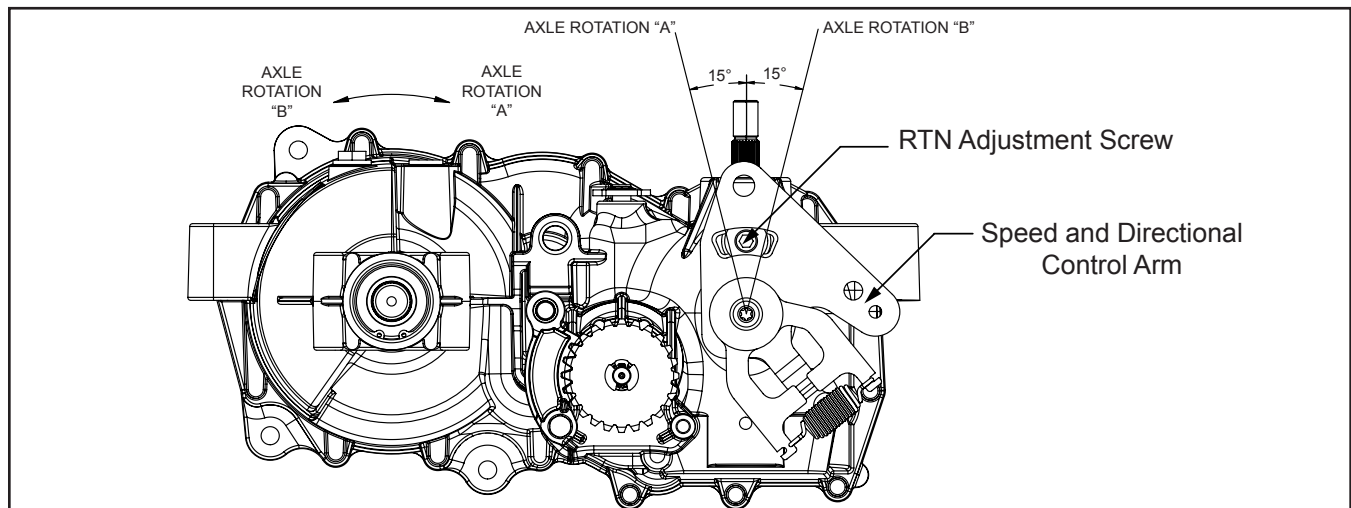

Figure 5. Return to Neutral Setting
**NOTE:** It may be necessary to remove the drive wheel from the axle hub to access the linkage control and the transaxle return arm. Remove the wheel by removing the four (4) lug nuts. Do not remove the axle/hub nut.
2. Remove the Original Equipment Manufacturer's (OEM's) control linkage at the control arm. Refer to Figure 5.
5. Stop the vehicle's engine. Reattach and adjust the OEM linkage according to Step 3 and Step 4. Stop the vehicle engine. Refer to Figure 5.
6. Note the axle directional movement. Stop the vehicle engine. Loosen the RTN adjustment screw until the control arm can be rotated. Rotate the control arm in the opposite direction of the wheel rotation in 5 degree increments. Tighten the RTN adjustment screw. Refer to table 8. Required Torque values, page 15. Recheck according to steps 3 and 4. Stop the vehicle engine. Reattach and adjust the OEM linkage according to the OEM manual. Recheck according to steps 3 and 4. Refer to Figure 5.